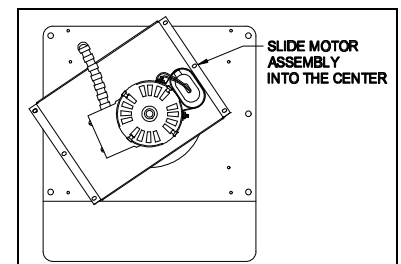

Figure 10
2. Remove the screws securing the motor assembly. Rotate the motor assembly counter-clockwise and slide the assembly into the center. Then pull the motor assembly out of the unit. (See Figure 10)